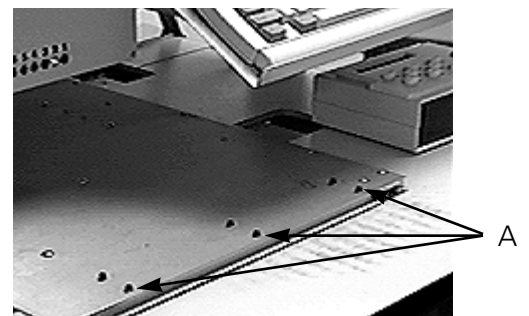

Figure 3-3
3. Referring to Figure 3-3, remove the six socket head cap screws labeled "A" from the sash frame (located below the User Station). Do not loosen or remove any other screws or nuts.